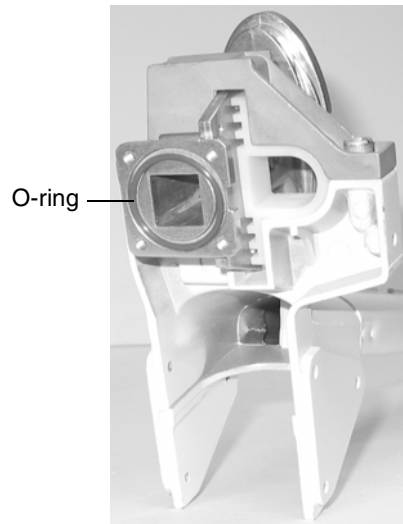

Figure 23: Securing the O-ring
1. Place the O-ring in the circular depression in the square end of the feed arm. See see Figure 23.